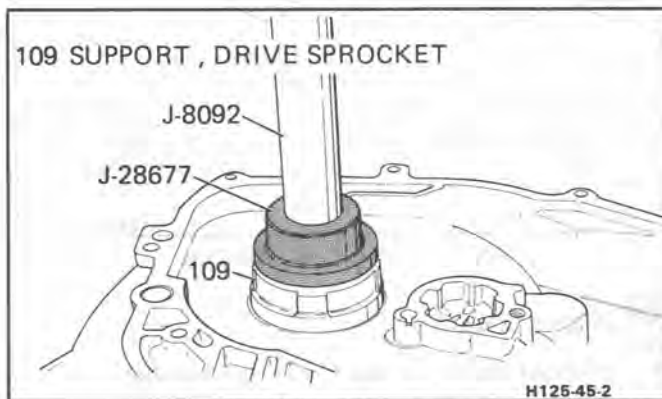

Figure 44 Installing Bearing
- Bearing (108) with J tools
**→↔ Install or Connect (Figure 44)**